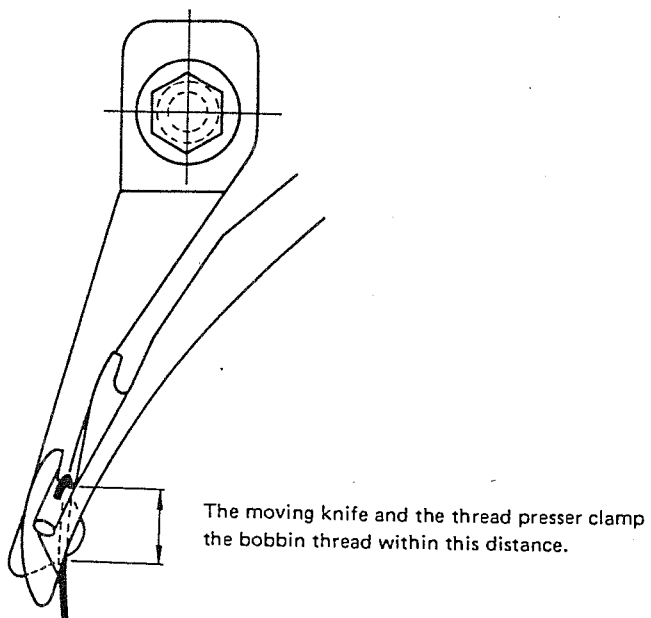

Fig. 27
<p>1. Loosen setscrew ① of the fixed knife. (Fig. 24)</p> <p>2. Properly position and install the thread presser so the bobbin thread is securely caught by the moving knife and the thread presser as illustrated in Fig. 27 when the moving knife goes back to its original position after thread trimming. (The needle thread is not clamped.)</p> <p>(Note) The fixed knife may be moved while making this adjustment.</p>	<ul style="list-style-type: none"> ○ The machine may fail in making some starting stitches. ○ When a thick thread is used, it may be entangled with the hook, causing the mechanism to lock.